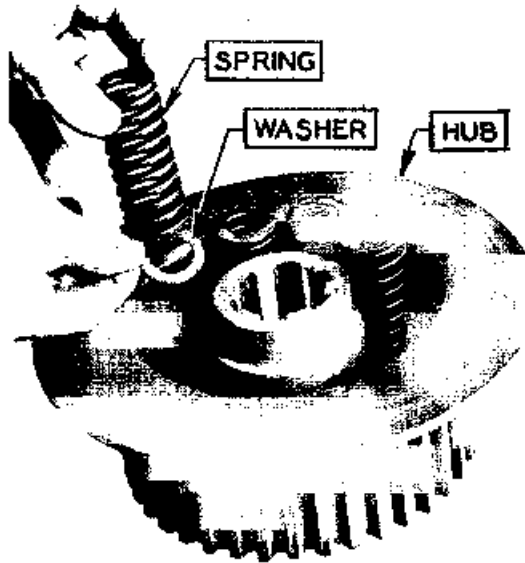

FIG. 16
1. Place steering clutch hub on bench or some flat surface with spring holes up. Figure 16.
3. Place a spring in each hole. Figure 16.